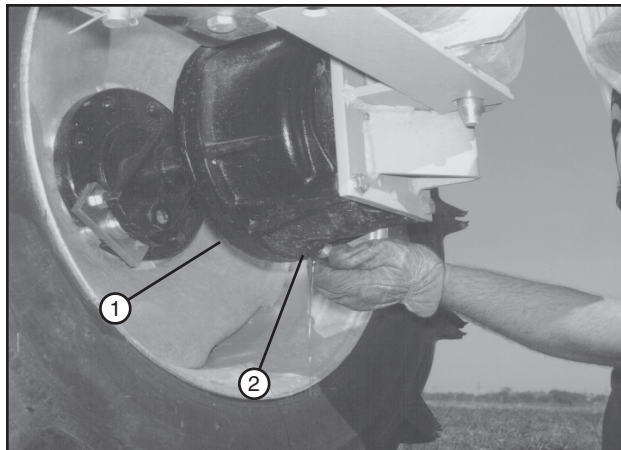

Figure 68-1 1. Wheel Gearbox
1. Remove the drain plug from the bottom of the wheel gearbox and drain the oil into a container. See figure 68-1.